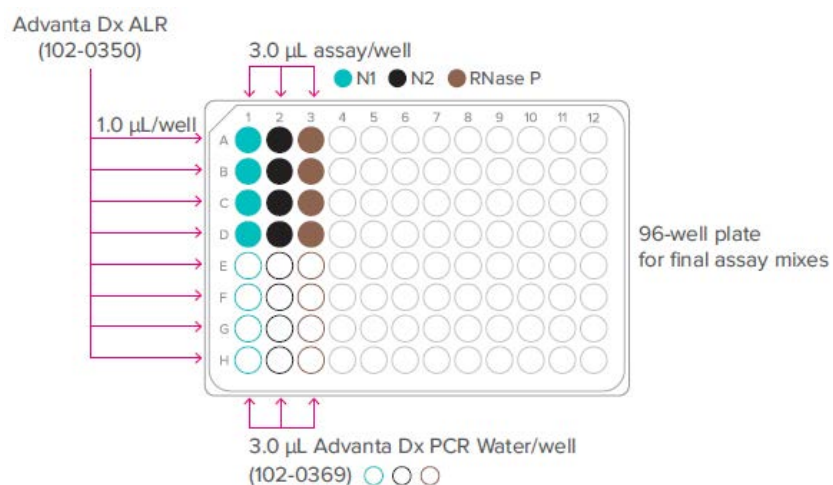

Figure 2. Final assay mixes plate (per-well transfer volumes)
- 2 In a DNA-free hood, prepare the assay mixes using the 2019-nCoV Probe & Primer Kit (102-0686) or the 2019-nCoV CDC EUA Kit (10006606; IDT) as shown in Figure 2.